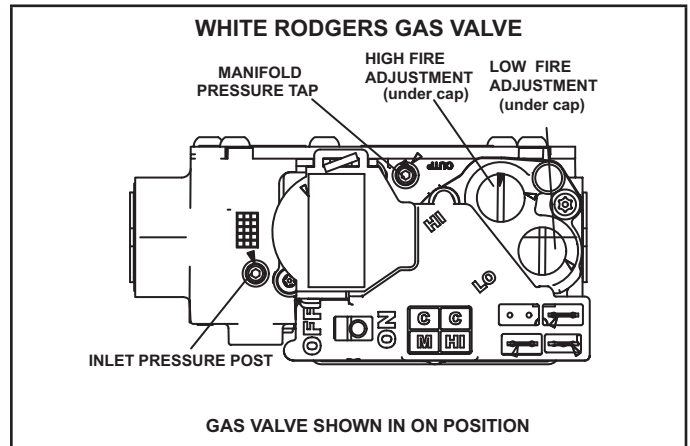

FIGURE 50
Gas Valve Operation (FIGURE 50)
- 6 - Move gas valve switch to **OFF**. See FIGURE 50.
- 8 - Move gas valve switch to **ON**. See FIGURE 50.
An inlet pressure post located on the gas valve provides access to the supply pressure. See FIGURE 50. Back out the 3/32 hex screw one turn, connect a piece of 5/16 tubing and connect to a manometer to measure supply pressure. See table 21 for supply line pressure.
A manifold pressure post located on the gas valve provides access to the manifold pressure. See FIGURE 50. Back out the 3/32 hex screw one turn, connect a piece of 5/16 tubing and connect to a manometer to measure manifold pressure. To correctly measure manifold pressure, the differential pressure between the positive gas manifold and the negative burner box must be considered.
- 4 - After allowing unit to stabilize for 5 minutes, record low fire manifold pressure and compare to value given in TABLE 21. If necessary, make adjustment. FIGURE 50 shows location of low fire adjustment screw.
- 5 - Repeat on high fire and compare to value given in TABLE 21. If necessary, make adjustment. FIGURE 50 shows location of high fire adjustment screw.